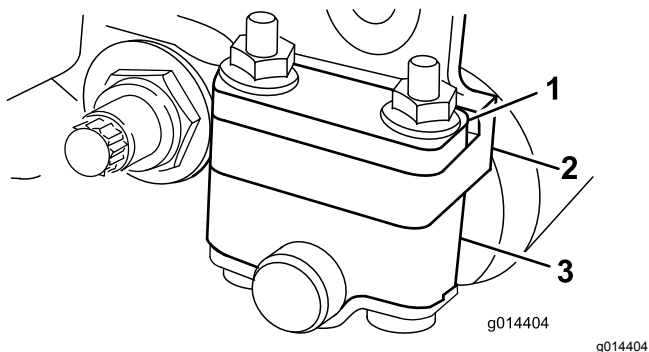
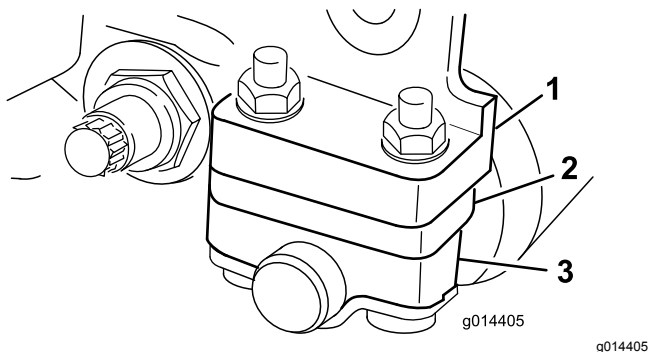

Figure 6
Figure 7
Depending on your desired height-of-cut range you need to adjust the rear roller brackets (Figure 6 or Figure 7) to the low or high position:
- Position the spacer above the sideplate mounting flange (factory setting) when the height-of-cut settings range from 1.5 mm to 6 mm (1/16 inch to 1/4 inch) as shown in Figure 6.
- Position the spacer below the sideplate mounting flange when the height of cut settings range from 3 mm to 25 mm (1/8 inch to 1 inch) as shown in Figure 7.
4. Place the spacers onto the screws above of below the roller brackets, as required (Figure 6 or Figure 7).